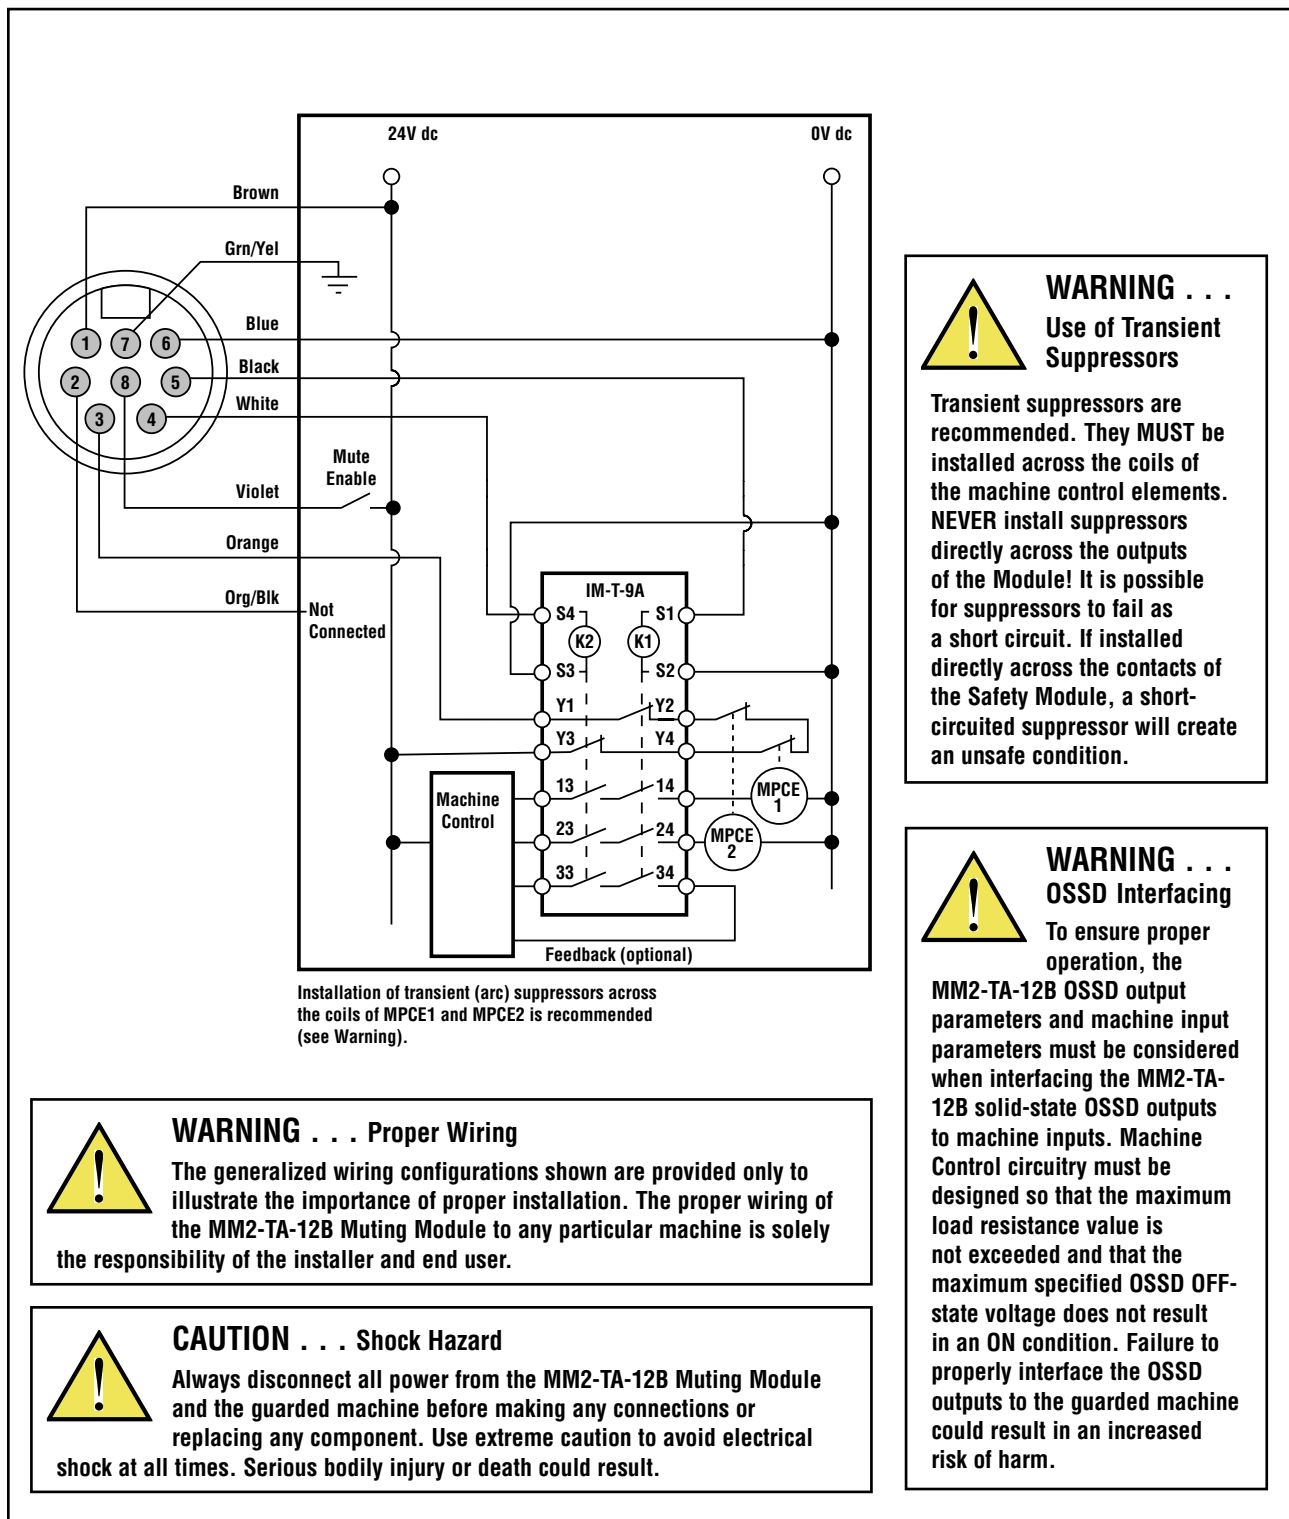

Figure 3-19. Generic hookup: interface module, one-channel EDM, Mute Enable
- **One-Channel Monitoring** — SW4 Bank A&B = OFF, (see Figure 3-19) SW5 Bank A&B = OFF